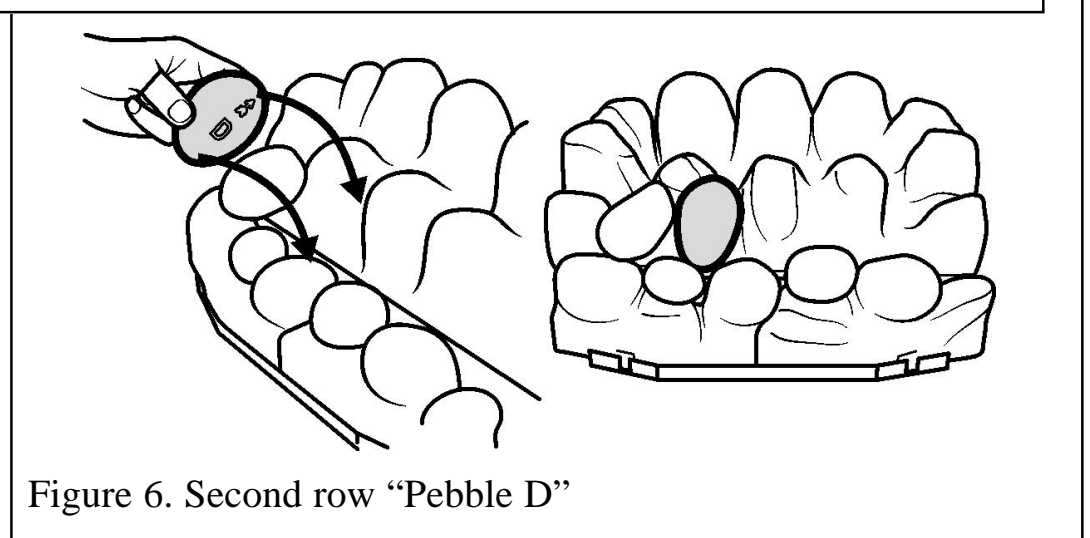

Figure 6. Second row "Pebble D"
8. Hold pebble 'D' upright with the arrow pointing to the top. Locate pebble 'D' as shown in figure 6.